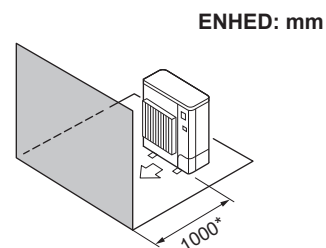

Fig. 2-10
(4) Kun forhindringer foran (Fig. 2-10)